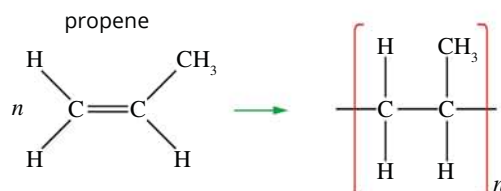

FIGURE 10.2.14 Propene undergoes addition polymerisation to form polypropene.
Polypropene (PP) is an addition polymer made from the monomer propene ($\text{CH}_2=\text{CHCH}_3$), as shown in Figure 10.2.14.